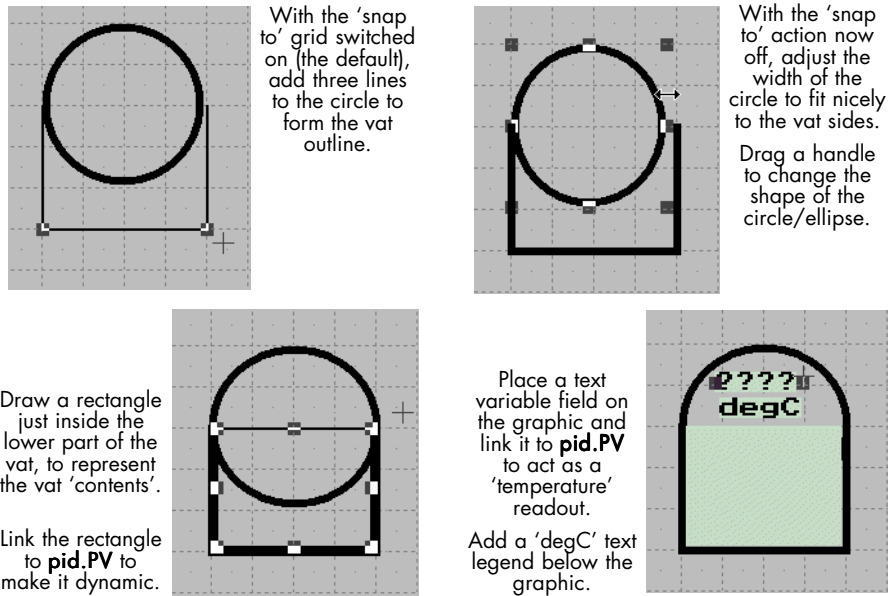

Figure 7-4 Drawing the 'vat'
- Now select the **Line** tool  and draw a vertical line 3 grid squares high, to form the left side of the vat. Repeat for the other side of the vat, then draw the base of length 4 grid squares. Figure 7-4 shows some stages in the drawing of the 'vat'.
- 1 Select the **Rectangle** tool  and draw a rectangle to lie just inside the lower part of the vat graphic, see Figure 7-4. Click the **Selection** tool then right-click the rectangle and select **Properties....**
- 5 If necessary, nudge the elements of the 'vat' graphic into their correct positions, see Figure 7-4. Drag a box around the graphics to select them all, then click the **Group** button  to combine them into a single object. Drag the 'vat' to near the top centre of the screen.